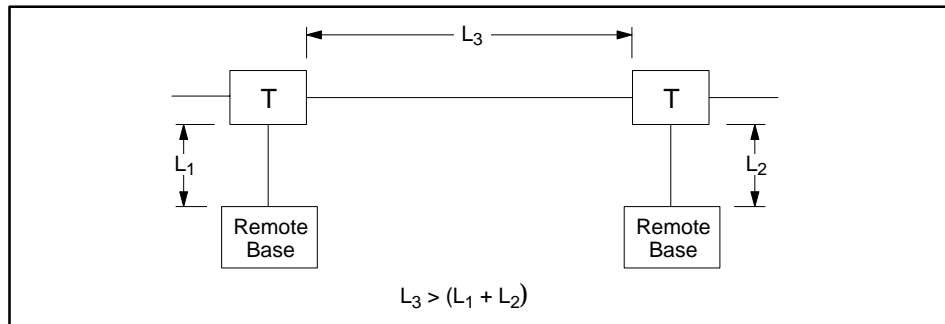

Figure 6-5 Spacing between Taps
- Tap connections on the trunk line should be spaced, on average, so that the total length of trunk cable separating several taps is greater than the sum of the total length of drop cables connected at the taps. See Figure 6-5.